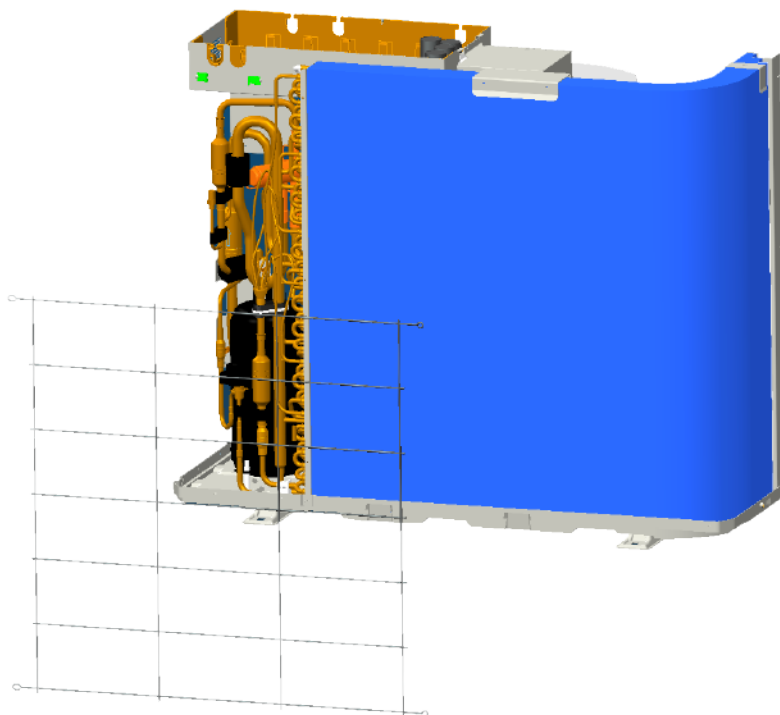

Fig.6
- Loosen the two tapping screws, and remove the Rear Grill.[See Fig.6]